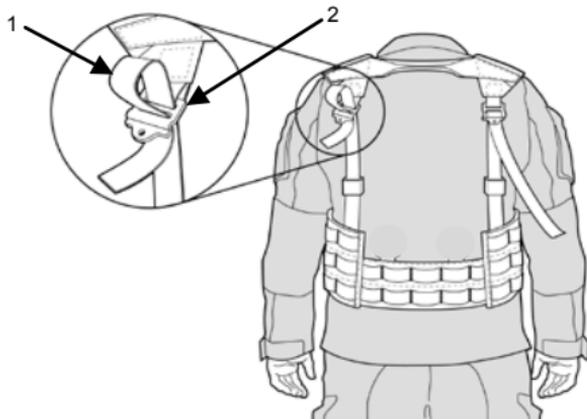

Figure 3. Webbing through Buckle on FLC.
3. Run the webbing (Figure 3, Item 1) back through buckle (Figure 3, Item 2) on the vest at the top.